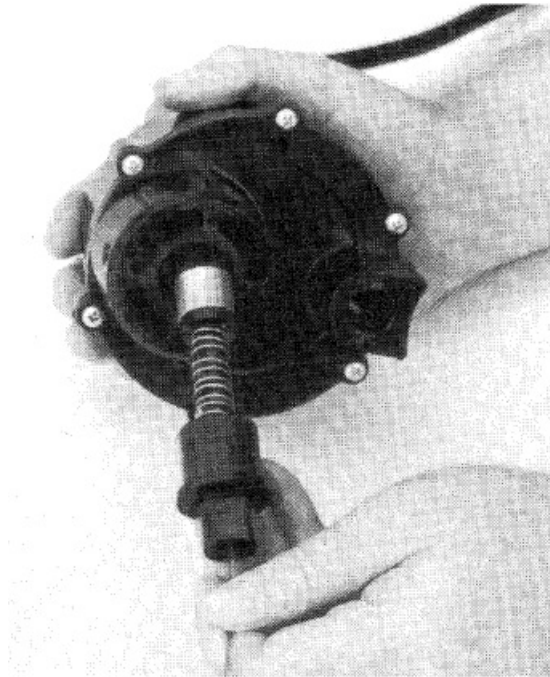

FIG. 9
2. Remove actuating assembly and clean all parts and hole in switch base Fig 9.